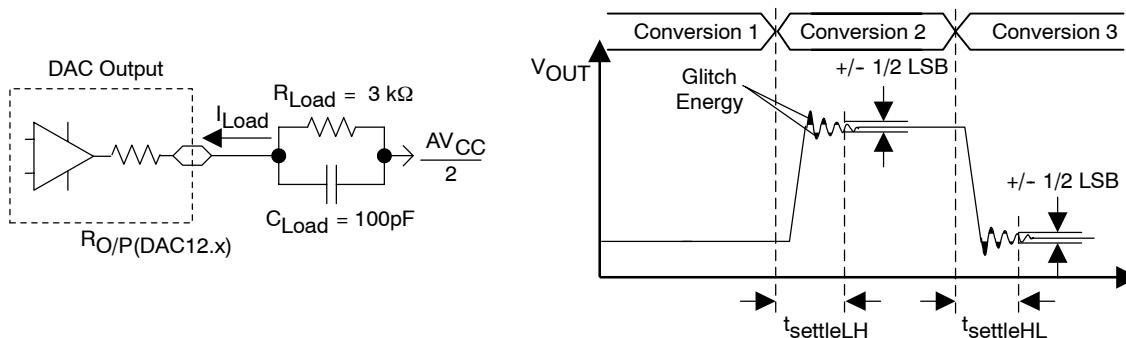
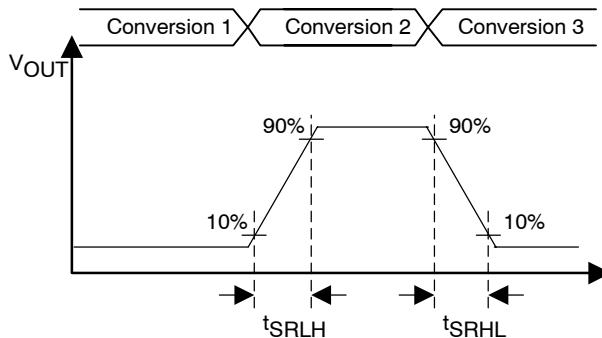

Figure 24. Settling Time and Glitch Energy Testing
Figure 25. Slew Rate Testing
12-bit DAC, dynamic specifications (V_{REF}, DAC12 = A_{V_{CC}}, DAC12IR = 1) (see Figure 24 and Figure 25)
- NOTES: 1. R_{Load} and C_{Load} connected to AV_{SS} (not A_{V_{CC}}/2) in Figure 24.